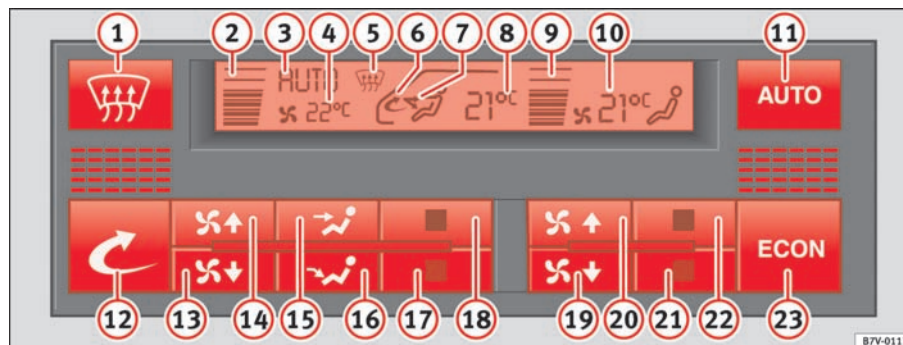

Fig. 120 Detail of the dash panel: Climatronic controls
- The temperature is selected with buttons ⇒ fig. 120 21 and 22. It remains stored until another temperature is selected.